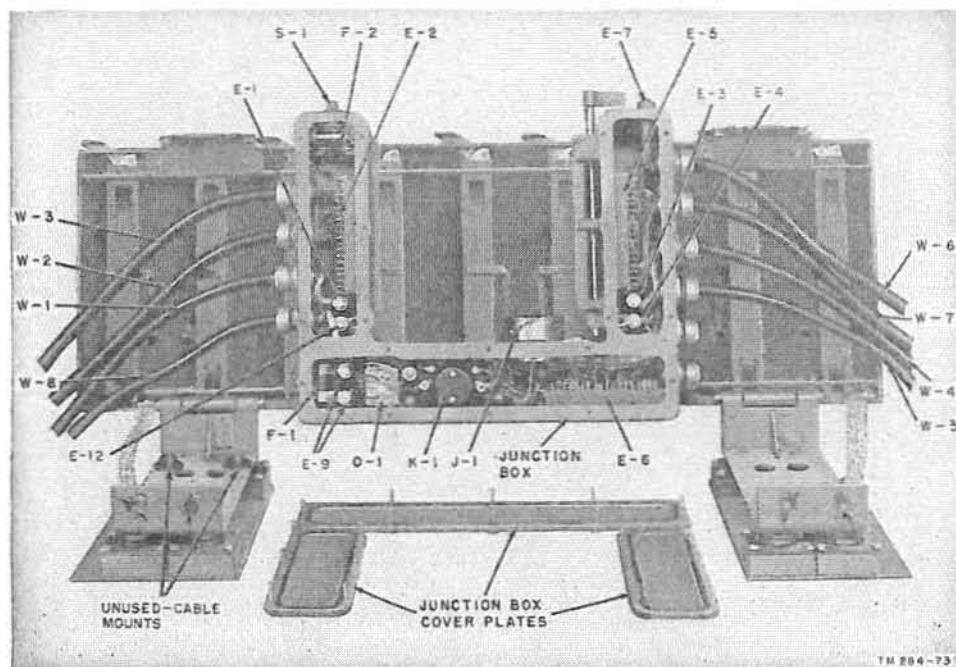

Figure 20. Mounting MT-297/GR, open view.
c. Loosen the four wing-nut fasteners which hold the mounting table firm against the shock mounts. Swing the mounting table back on its hinges to make the junction box available. Remove the three cover plates from the junction box (fig. 20).
f. Loosen the bondnut on the cable clamp at one of the unused cable entries on the right-hand side of the junction box (fig. 20). Remove the nut, metal ring, and rubber washer from the cable clamp and slip them over the prepared end of the cable in reverse order (nut, ring, and washer). (The rubber plug which will be found in the cable entry is for waterproofing an unused entry; it will not be required in the final assembly.)
g. Insert the prepared end of the cable through the cable entry and solder the individual conductors to terminals of terminal board E-6 in the mounting (fig. 20); observe the color coding indicated on figure 22. The cable should be inserted until the outer insulation protrudes on the inside of the junction box. Sufficient slack should be allowed for all terminal connections.
nectors, E-1, E-3, E-4, E-9, and E-12 (fig. 20). Cable compression can cause these connectors to become loose over a period of time.
k. In Radio Sets AN/GRC-4, -6, and -8, which do not use an auxiliary receiver, fasten the two receiver cables (W-1 and W-2 on fig. 20) to the unused cable mounts (fig. 73).
o. Connect the battery cable (W-8 on fig. 20) in accordance with instructions furnished with the installation unit. Generally, the cable will connect to a vehicular junction box rather than